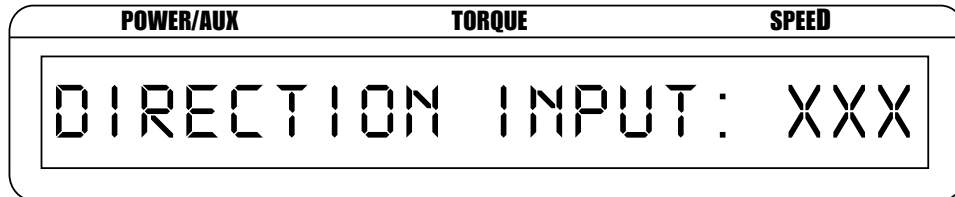

Figure 4-5 Direction Input Setup Menu
1. Press and release SHIFT. The Direction Input Setup Menu (as seen in *Figure 4-5*) appears.